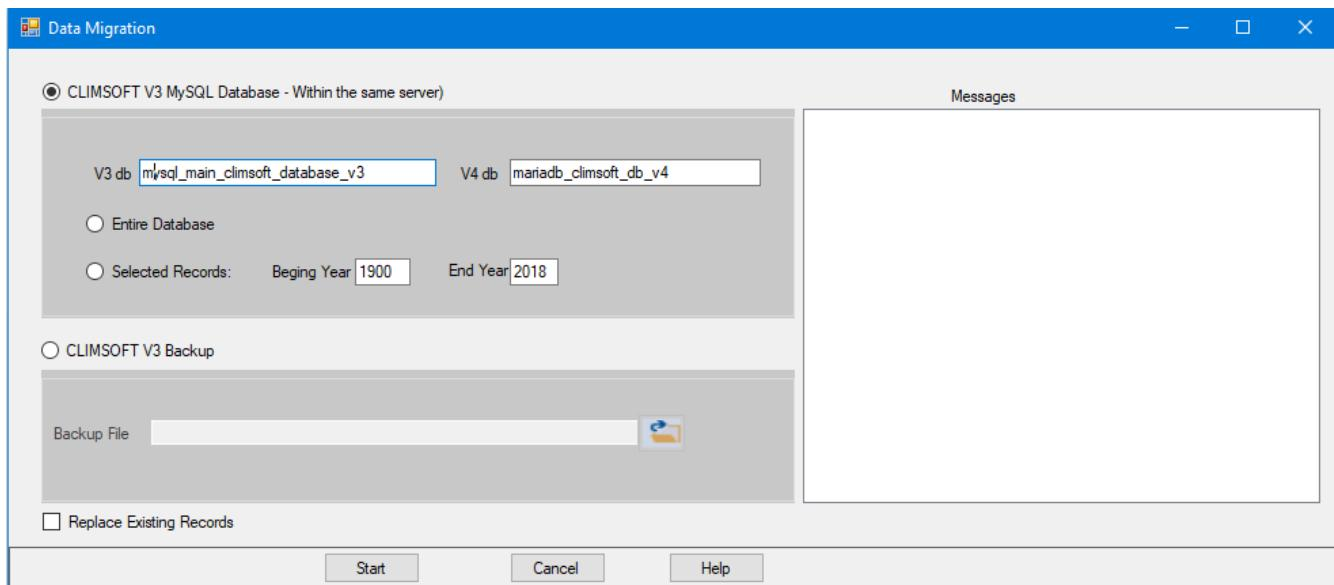

Figure 50: Data migration dialog
From the Welcome dialog click on the icon “**Data Transfer**” then “**External Data**” and “**Data Migration**” to obtain the dialog in Figure 50.
Ensure the database names for both V3 and V4 are correctly typed (See Figure 50 above);
- (i) Select the option “**Climsoft V3 Backup**” (see Figure 50 above),